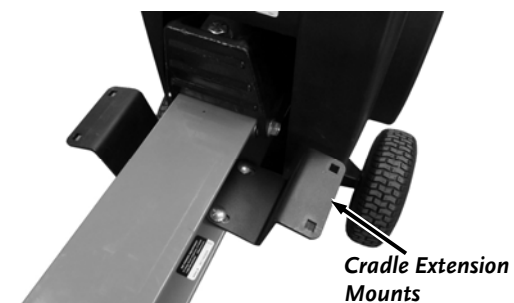

Figure 3
3. Install the Cradle Extension Mounts using four 3/8-16 X 1.25" Flange Bolts and 3/8-16 Flanged Locknuts by hand but do not tighten (**Figure 3**).